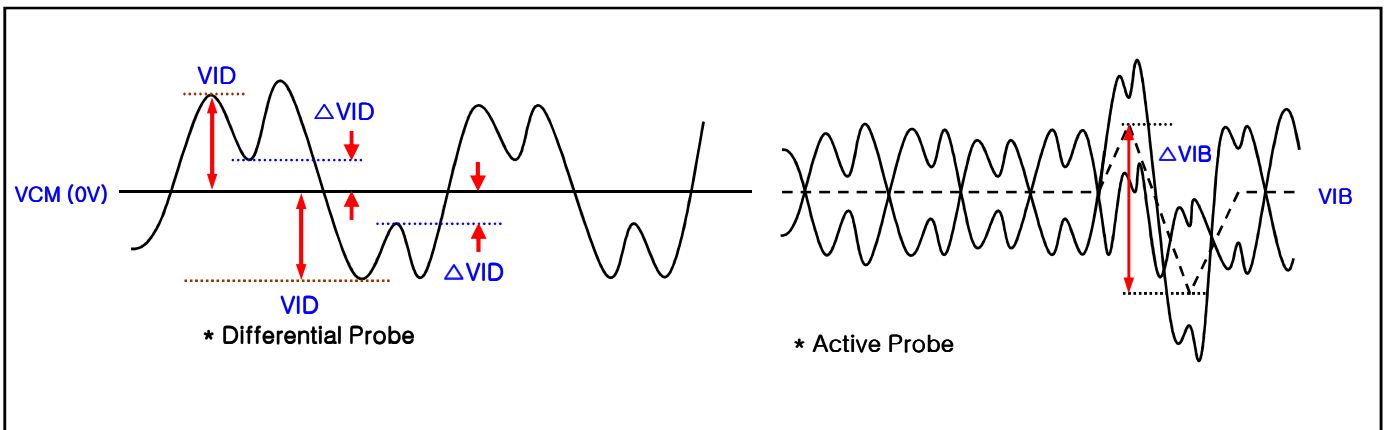

FIG. 2 Description of VID, ΔVIB, ΔVID
- In case of mini-LVDS signal spec, refer to Fig 2 for the more detail.